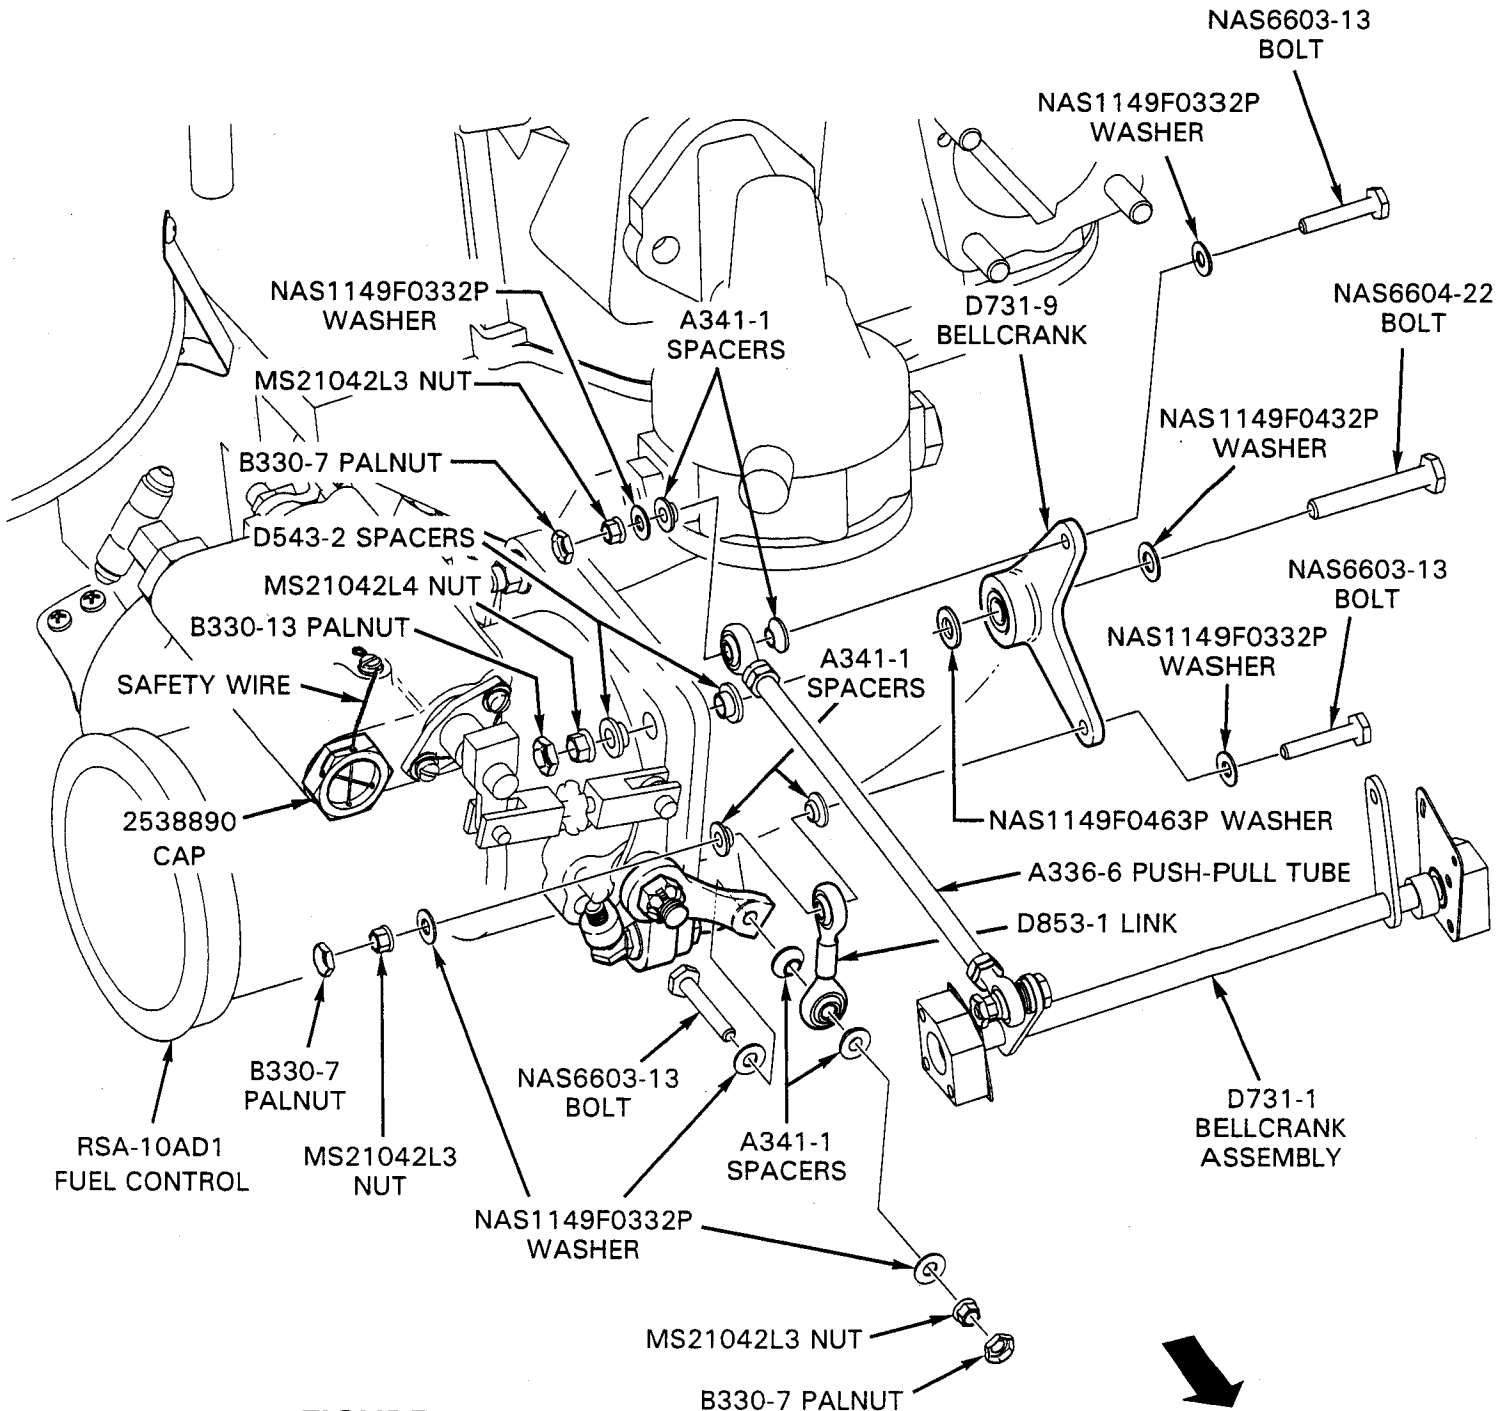
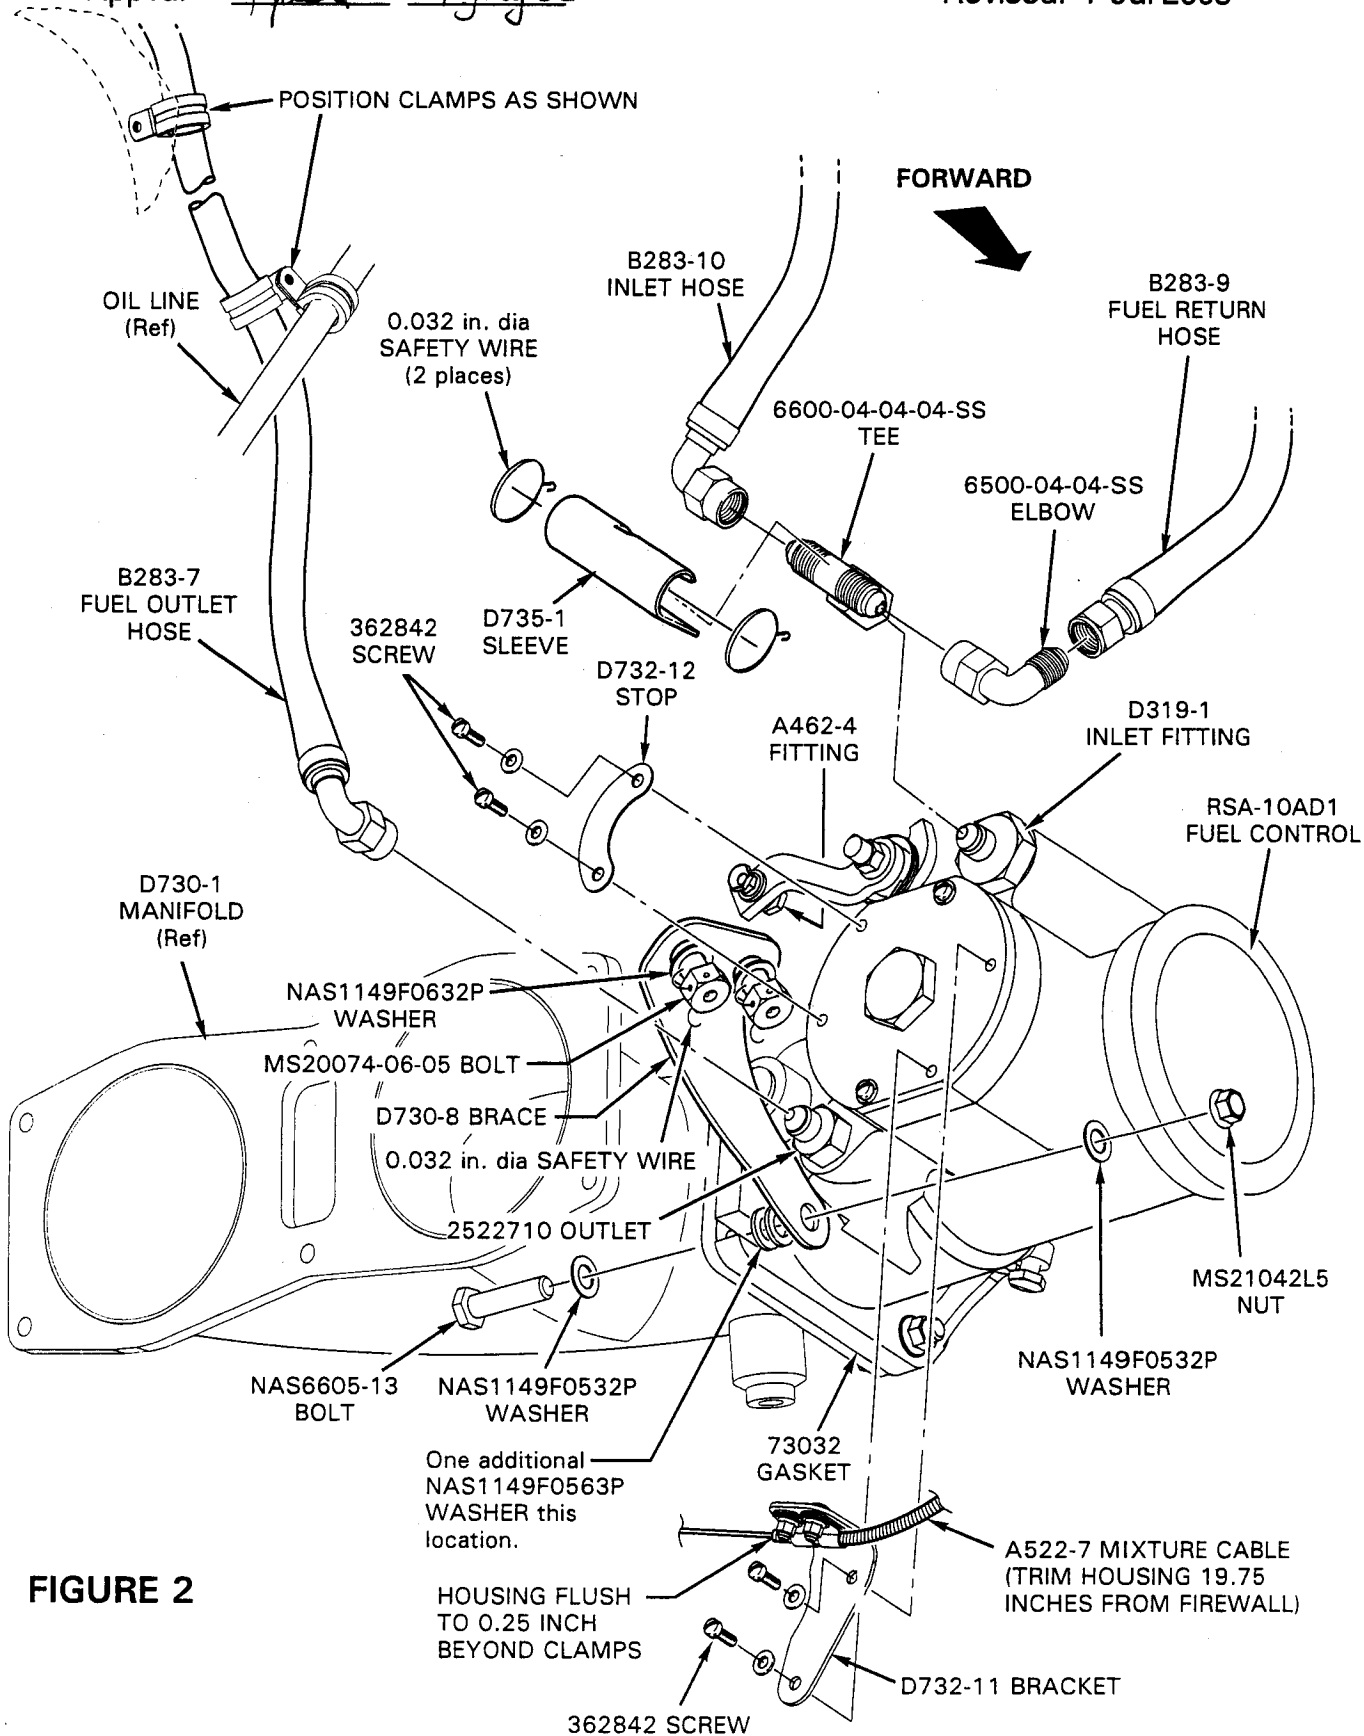
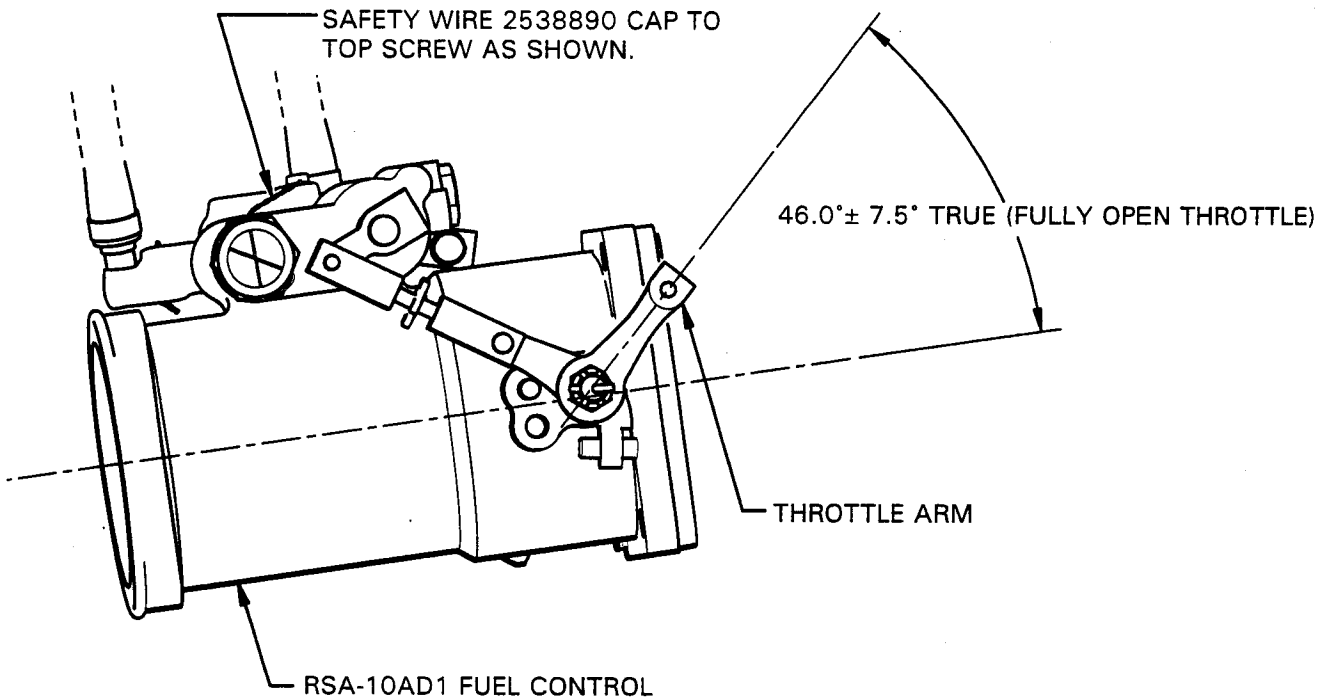

FIGURE 1
FIGURE 2
FIGURE 4
4. Refer to R44 IPC Figure 4-19B dated JAN 2005 and to Figure 1. Remove C606-2 cover. Unscrew A336-5 push-pull tube from forward rod end, leaving jam nut and palnut attached to rod end. Transfer remaining rod end from A336-5 to supplied A336-6 push-pull tube. Insert open end of A336-6 thru firewall slot and screw onto rod end until it contacts jam nut.
- a. Refer to R44 IPC Figure 4-31D dated JAN 2005 and to Figures 1 and 2. Remove D319-1 reducer (fuel inlet fitting), and remove screen from inlet end of fuel control. Cut safety wire, and remove 2538890 cap from opposite end of screen cavity. Inspect o-rings on reducer, filter screen, and cap; replace any that are damaged. Lubricate o-rings with clean, light oil. Install cap in location previously occupied by reducer. Install filter screen and reducer on regulator-side of fuel control (ensure open end of filter screen mates with reducer). Torque cap and reducer to 65–70 in.-lb, and safety wire cap to screw on top of fuel control casting as shown in Figure 4.
- c. Refer to R44 IPC Figure 4-19F dated FEB 2005 and to Figures 2 and 5. Cut and remove safety wire from regulator cover screws. If possible, avoid cutting wire with factory seal to center hex plug.
- d. Re-clock throttle and mixture control arms as shown in Figures 4 and 5. Ensure mixture safety spring remains in place while re-clocking mixture control arm. Torque throttle arm nut to 90–130 in.-lb and install new MS245665-132 cotter pin. Torque mixture arm nut to 90–100 in.-lb.
6. Remove D730-7 brace (ref R44 IPC Figure 4-31D dated JAN 2005) from engine and discard. Retain attaching hardware. Install D730-8 brace in lower engine case holes as shown in Figure 2. Ensure lower hole in D730-8 brace aligns with bolt hole in D730-1 manifold. Torque MS20074-06-05 brace-to-engine-case bolts to 204 in.-lb and safety wire.
7. Refer to Figures 1 and 2. With regulator section aft as shown, install fuel control using new 73032 gasket. Use mounting hardware retained from step 2 at lower-forward and upper-aft mount holes. Include D731-9 bellcrank assembly and hardware at upper-forward mount hole as shown in Figure 1. Include D730-8 brace and additional NAS1149F0563P washer at lower-aft hole as shown in Figure 2. Torque bolts per R44 MM Section 1.320, and torque stripe bellcrank pivot bolt.
8. Refer to R44 IPC Figure 4-31D dated JAN 2005. Remove and discard B283-8 inlet hose and inlet tee. Install B283-10 inlet hose, 6600-04-04-04-SS inlet tee, and 6500-04-04-SS elbow as shown in Figure 2. Connect B283-9 fuel return hose to elbow. Torque fittings to 135–150 in.-lb.
Connect hose to fuel control outlet, and tighten hose at flow divider. Torque hose fittings to 135–150 in.-lb. Install lower support clamp and oil line support clamps as shown in Figure 2.
10. Refer to Figure 1. Install D853-1 link from bellcrank assembly to throttle arm as shown. Torque fasteners per R44 MM Section 1.320 and torque stripe.
11. Refer to Figure 1. Connect aft end of A336-6 push-pull tube to D731-9 bellcrank assembly as shown. Adjust A336-6 push-pull tube length as required to obtain full throttle travel (collective must be raised to obtain full throttle) and correlation rigging per R44 MM Section 10.150. Verify adequate clearance between A336-6 push-pull tube, D853-1 link, and surrounding aircraft structure. Ensure both ends of A336-6 are torqued per R44 MM Section 1.320.
12. Secure mixture cable housing to D732-11 bracket with housing flush to 0.25 inch extended beyond clamps as shown in Figure 2. Torque cable housing clamp screws per R44 MM Section 1.320. Connect mixture control and adjust as required to obtain full travel and 0.03 to 0.10 inch clearance under mixture control knob when full rich. Mixture control inner wire should protrude 0.10-0.30 inch beyond A462-4 fitting at fuel control mixture arm; trim wire as required but do not bend end. Torque fitting at mixture arm to 25–30 in.-lb and verify freedom of rotation between mixture arm and control wire. If wire cannot rotate relative to mixture arm then A130 spacer on fitting may be missing or damaged; replace as required.
13. Check and adjust idle mixture and speed per R44 MM Section 6.495 steps 19 through 24. Install thermal-insulating D735-1 sleeve on inlet tee using safety wire as shown in Figure 2.